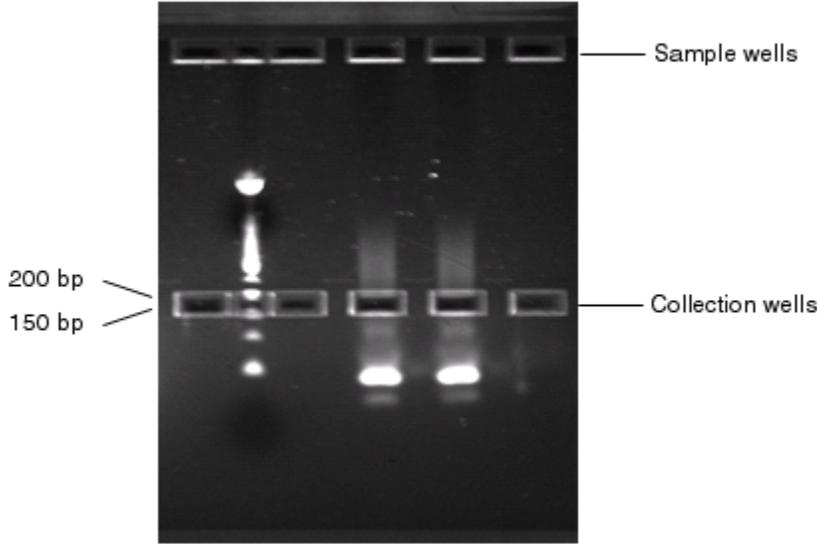

Figure 5 Elution of ~150- to 200-bp region from an E-Gel® 2% SizeSelect™ gel.
5. When the 150-bp band from the marker lane clears the collection well and the 200-bp band is about to enter the collection well, stop the run if the run has not already stopped (see Figure 5 on page 15).